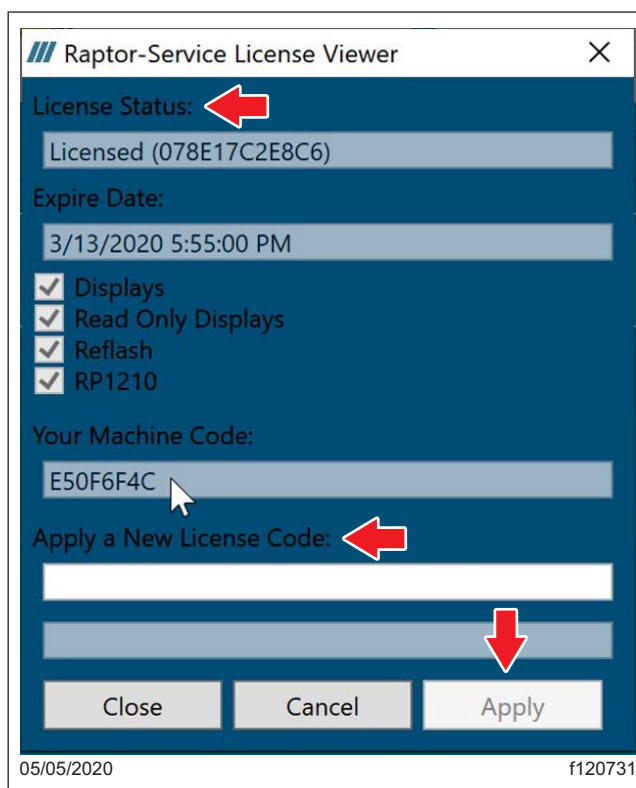

Fig. 22, Raptor-Service License Viewer Window
3. A 'License Viewer' window will open. See Fig. 22. If the 'License Status' says 'licensed,' you do not need a machine code.
Once the license code is created by Agility, enter it in the 'Apply a New License Code' section shown in Fig. 22, then select 'Apply' and close the window.